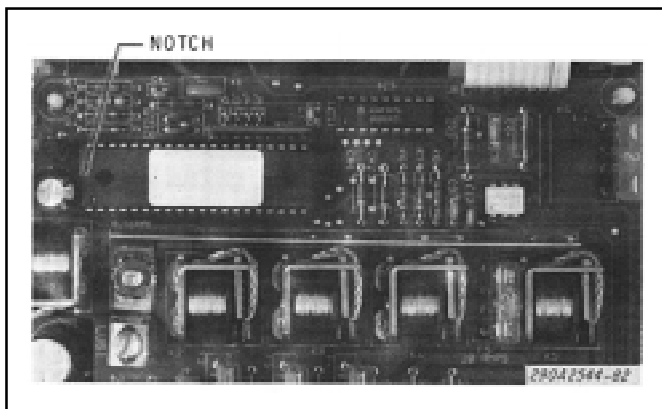

Figure 3-2. Relay Circuit Board Microprocessor.
3. See figure 3-2. Insert the new microprocessor IC ("RB" in the part number) in the empty socket. Ensure that the notch on the new microprocessor IC is facing the same direction as the old one (toward F1—20-ampere fuse) and that all IC pins are properly inserted in the socket—not bent under.